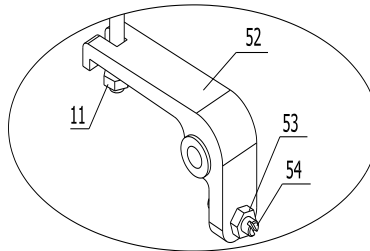

**Figure 2**
4. Cross the chain 10 of the Handle Tube through the hole of the pin shaft 23. Please refer to Figure 2.
5. Put the screw and nut at the end of chain 10 into the slot of the lever plate. Please refer to Figure 2 and Figure 4.